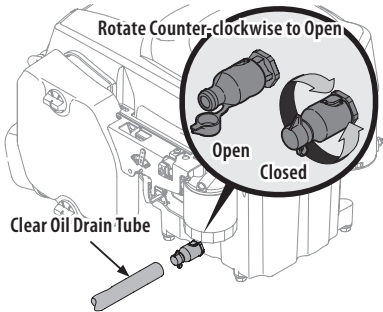

Fig. 35
4. Open the protective cap on the end of the oil drain valve to expose the drain port (Fig. 35).